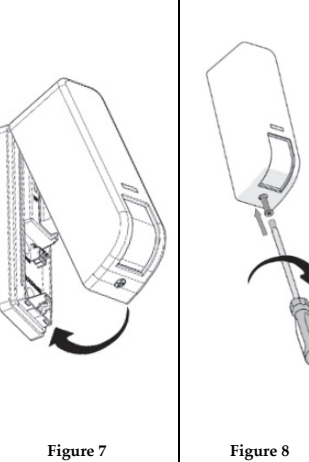

Figure 7
Step 7: Securing the Detector to the Bracket (See Figures 7 & 8)